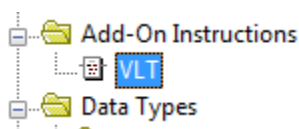

Figure 4
6. Verify the Add-On Instruction is available under the “Add-On Instruction” menu and looks similar to Figure 4. And that the name is the same.